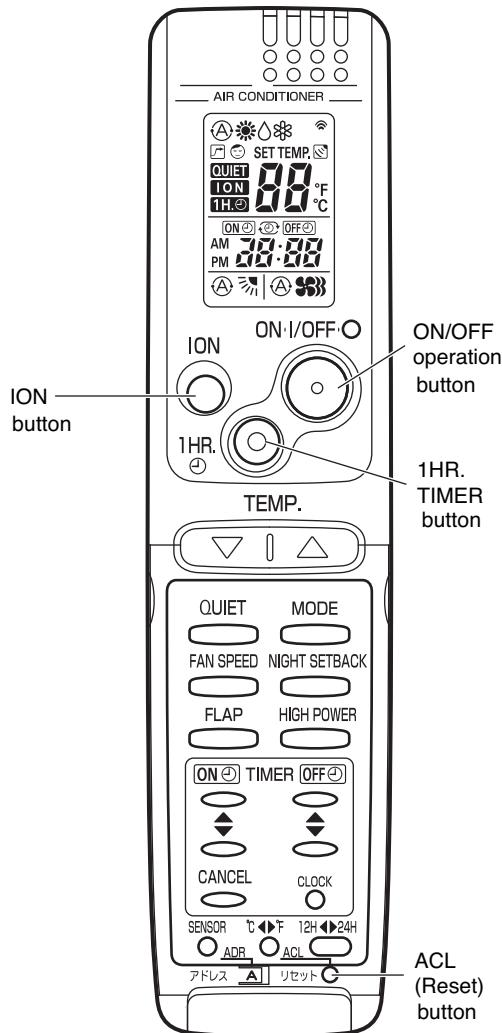

Fig. 59a
(Fig. 59a)
- (3) Press the ON/OFF operation button of the remote controller again to stop the test run. (Fig. 59a)
- (4) Finally press the ACL (Reset) button of the remote controller to release it from Test Run mode to return to normal mode. (Fig. 59a)